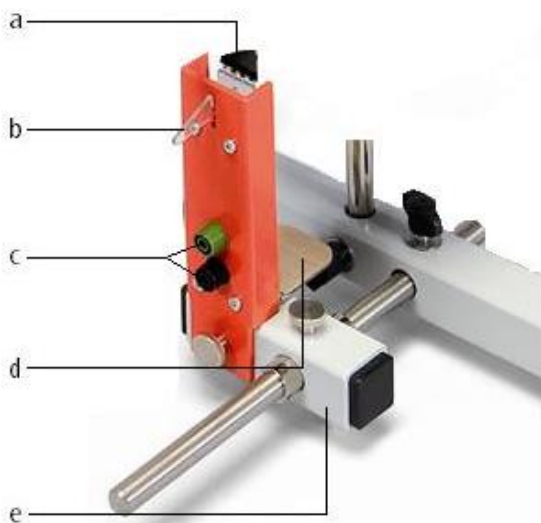

Fig. 1 Set-up for the start/stop unit: a pointer, b starting lever, c sockets for starter, d bracket for laser reflection sensor, e short stand rod
6.1 Setting up (see Figs. 1 and 2)
By using the start/stop unit and the laser reflection sensor, it is possible to make exact measurements over defined angular segments (see Fig. 1). Operating the lever (b) releases the brake that is holding the disc, and simultaneously a switch contact between the two sockets (c) is opened and starts the time measurement. A laser reflection sensor can be used to stop the time measurement at a predetermined position without touching the disc and without a time delay.